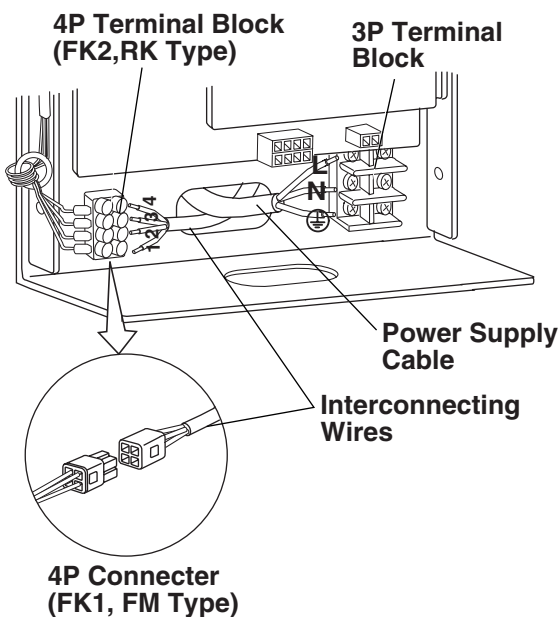

Fig.3-24 Power Supply Cable and Interconnecting Wires Connection
- Cut the wires of power supply cable to workable length and strip 10 mm of insulation. Connect the wires of power supply cable to 3P terminal block. **(Fig 3-24)**
Cut the interconnecting wires to workable length and strip 10mm insulation. Connect the wires to 4P terminal block. **(Fig.3-24)**
Connect 4P connector of interconnecting wires to 4P connector in the main controller **(Fig.3-24)**